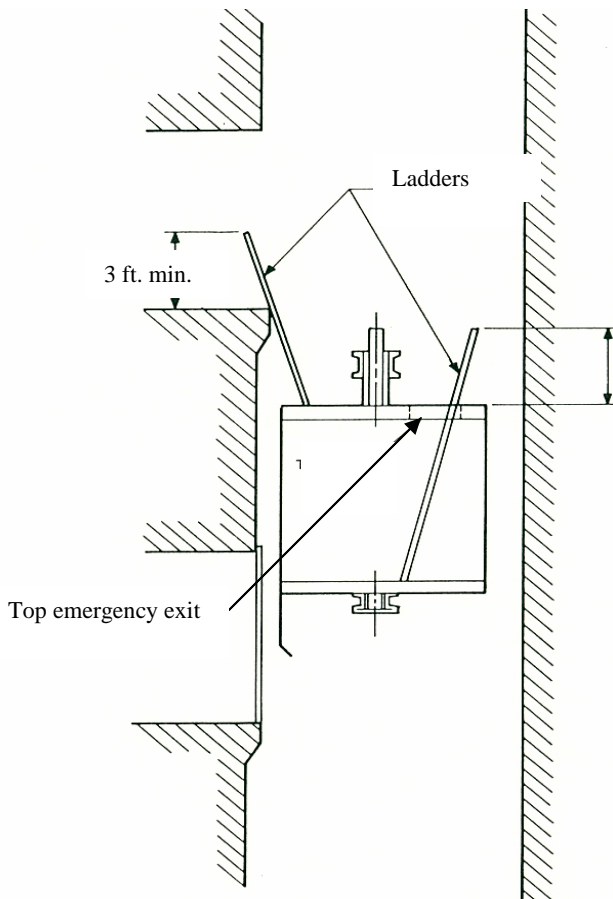

FIG. 1-3. USE OF TOP EMERGENCY EXIT
1.21.3 Procedure when car is more than 3 feet from the landing: (See Fig. 1-3.)